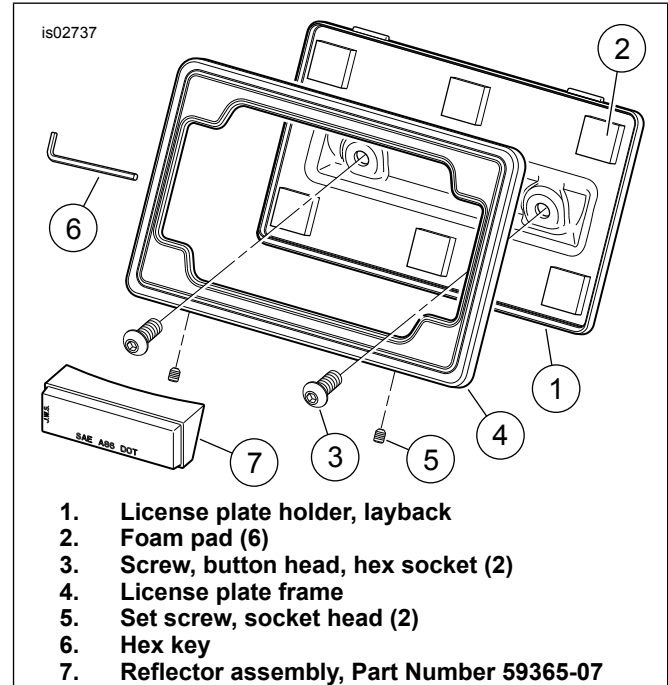

Figure 1. Layback License Plate Mount Components
See Figure 1.
2. See Figure 1. Install the new layback license plate holder (1) using the button-head hex socket screws (3) from the kit. Tighten the screws to 25.8 N·m (19 ft-lbs).